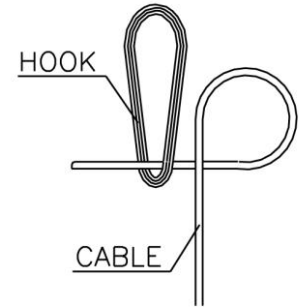

Fig 5
7. Tie the hook with cable as shown in Fig 5 – 7.